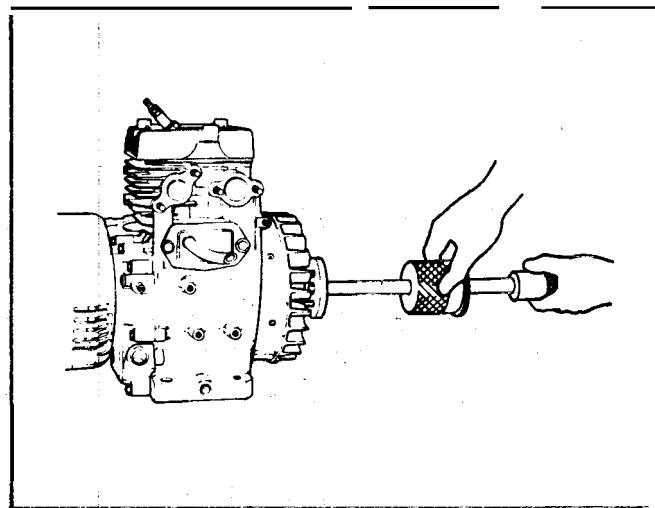

Figure 39
8. Use a puller or removerto removethe flywheel. See the section on special tools on page 19, for the correct tool and part number. See Figure 39.